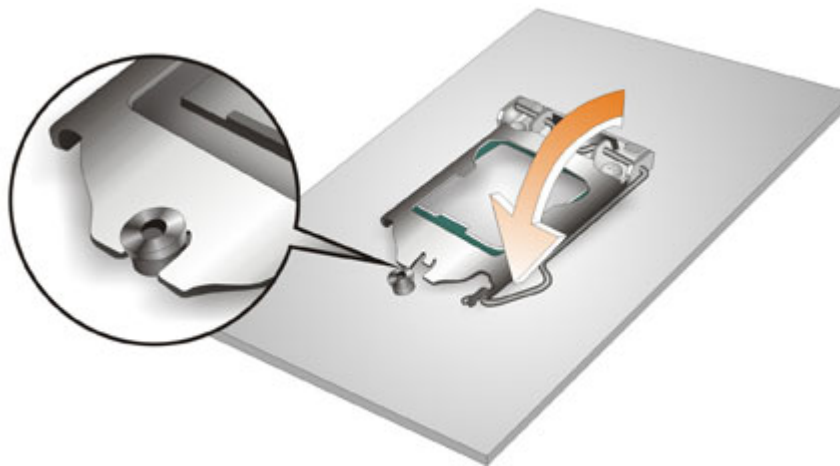

Figure 4-4: Close the Socket LGA1150
Step 8: Close the CPU socket. Close the load plate and pull the load lever back a little to have the load plate be able to secure to the knob. Engage the load lever by pushing it back to its original position (**Figure 4-4**). There will be some resistance, but will not require extreme pressure.